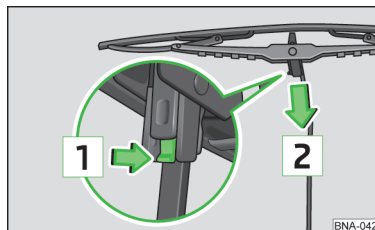

Fig. 100
- Lift the windscreen wiper arm away from the windscreen and position the wiper blade at a right angle to the wiper arm » fig. 100.